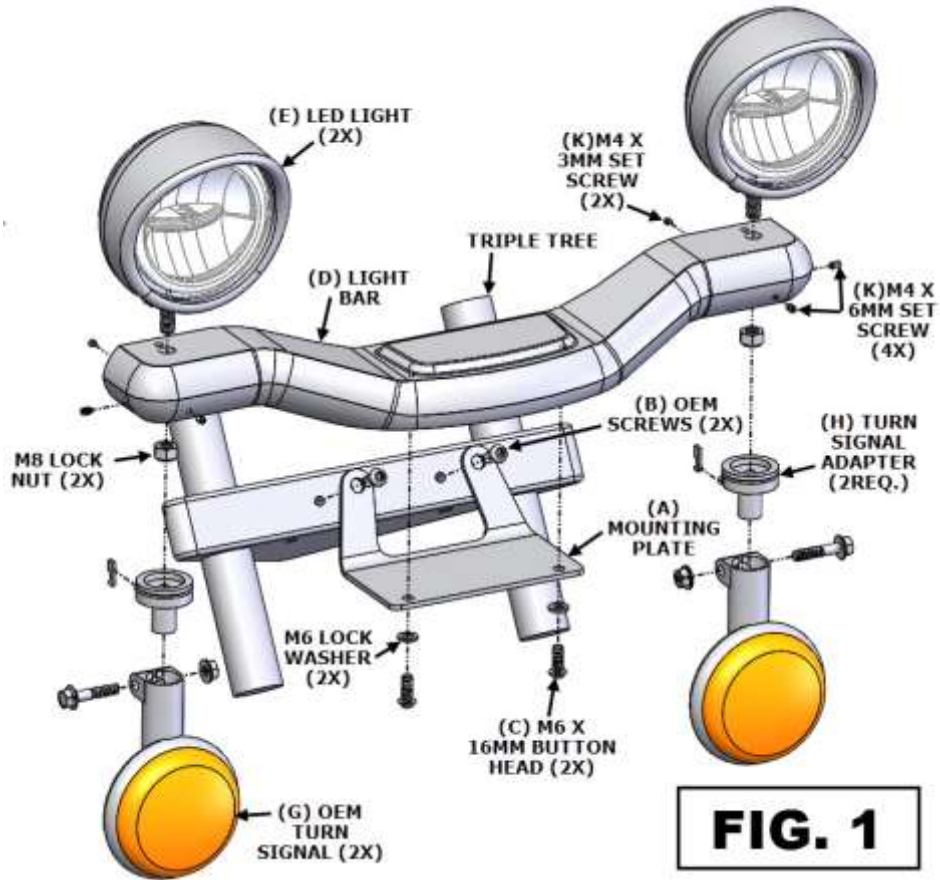

FIG. 1
- INSTALL EACH OEM TURN SIGNAL (G) ONTO THE NEW TURN SIGNAL ADAPTER (H) ROUTING THE WIRES THROUGH THE HOLE IN THE ADAPTER USING THE BOLTS REMOVED IN STEP 6; SECURE THE TURN SIGNAL TO THE ADAPTER.
- ROUTE THE OEM TURN SIGNAL WIRES AND LED LIGHT WIRE UNDER THE LIGHT BAR (D). YOU MAY HAVE TO CUT OFF THE OEM BULLET CONNECTORS AND ADD NEW ONES AFTER THEY ARE ROUTED.
- THE TURN SIGNAL ADAPTER (H) WITH OEM TURN SIGNAL (G) NEED TO BE POSITIONED INTO THE LOWER ENDS OF THE NEW LIGHT BAR (D) AND SECURED WITH THE SET SCREWS (K). THE SHORT SET SCREWS GO IN THE BACK HOLES. THERE ARE THREE SET SCREWS ON EACH SIDE. **SEE FIG. 1**